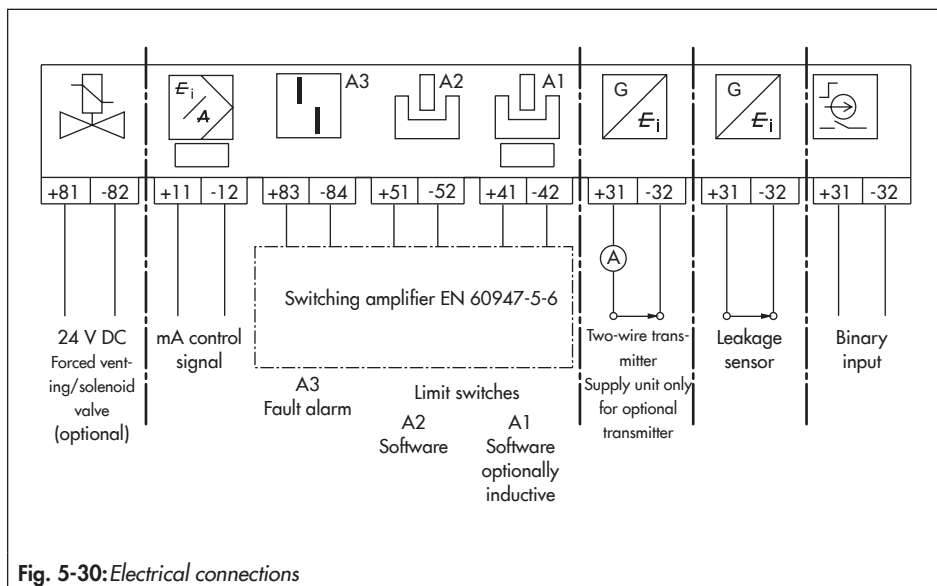

Fig. 5-30: Electrical connections
Refer to Fig. 5-30 or to the label on the terminal block.
- Connect the electrical power (mA signal) as shown in Fig. 5-30.